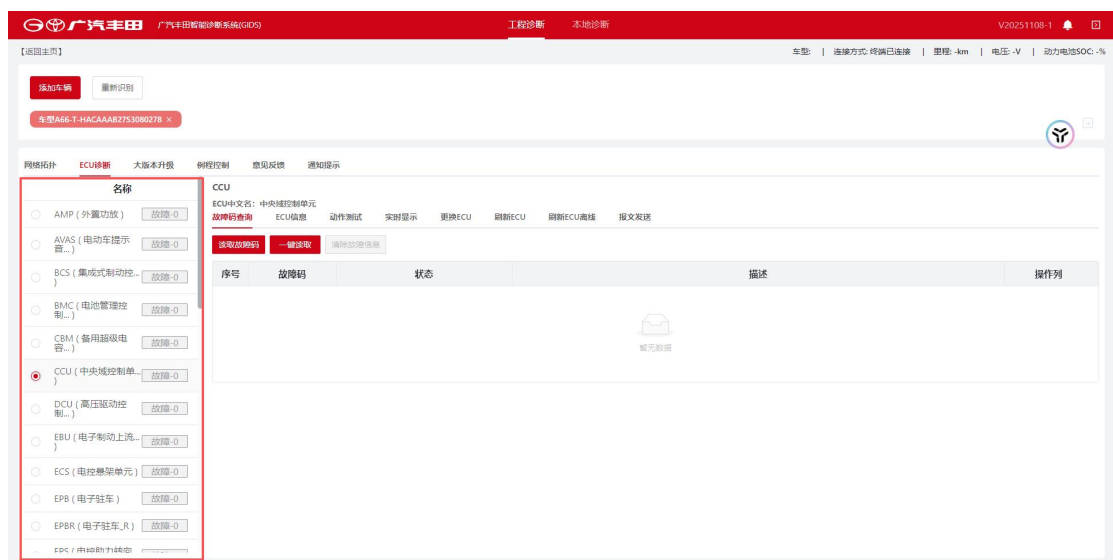
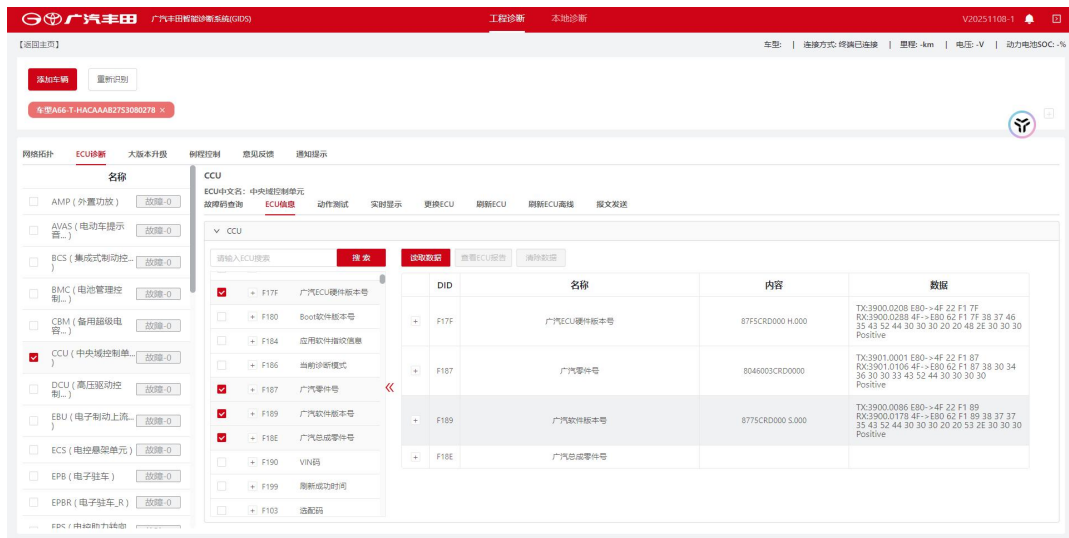
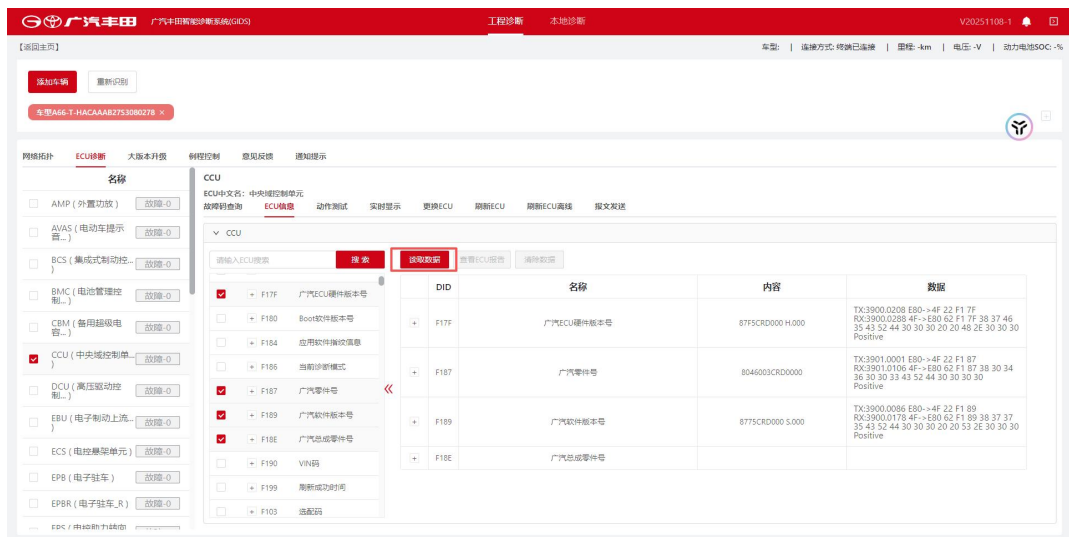

Figure 5-6 Select ECU
Figure 5-7 Select Data Items
Figure 5-8 Reading Data
1. As shown in Figure 5-6 Select ECU and Figure 5-7 Select the Data Items to Read, then click "Read Data", as shown in Figure 5-8 Reading Data,